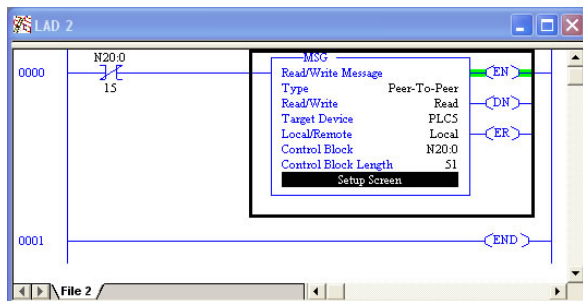

Figure 73: Completed PLC Program
7) **The program is now complete. Refer to Figure 73.**